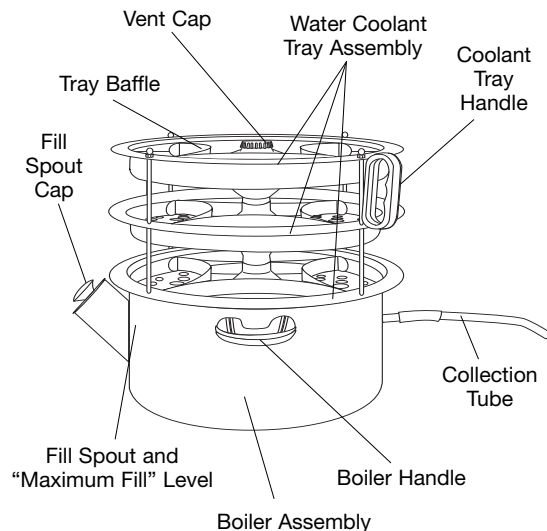

FIGURE 1
9. Never remove the water coolant tray assembly (fig. 1) while in operation. Let cool at least 1 hour after a cycle is finished or interrupted. Boiling water or steam can cause severe burns.
- Vent cap should always be loosely in place (not jammed down) during operation (fig. 1).
- During continuous operation (page 5), caution should be taken when removing the boiler fill spout cap (fig. 1) to refill boiler or check boiler water level. Use potholder or insulated oven mitt to remove this cap.
3. Make sure fill spout cap is in place (fig. 1).
5. Vent cap should always be loosely in place (not jammed down) during operation (fig. 1).
caution should be taken when removing fill spout cap (fig. 1) to refill boiler or check boiler water level.